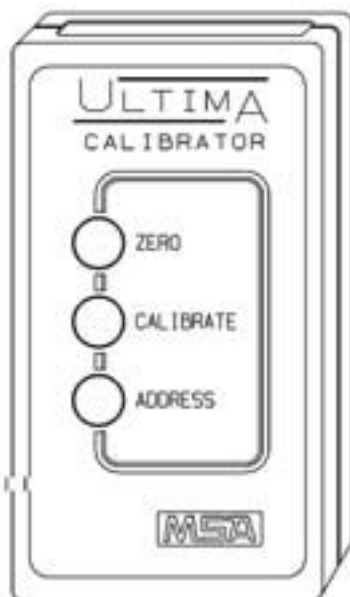

Fig. 21 Ultima Calibrator
- Ultima Calibrator P/N 809997 (Fig. 21)